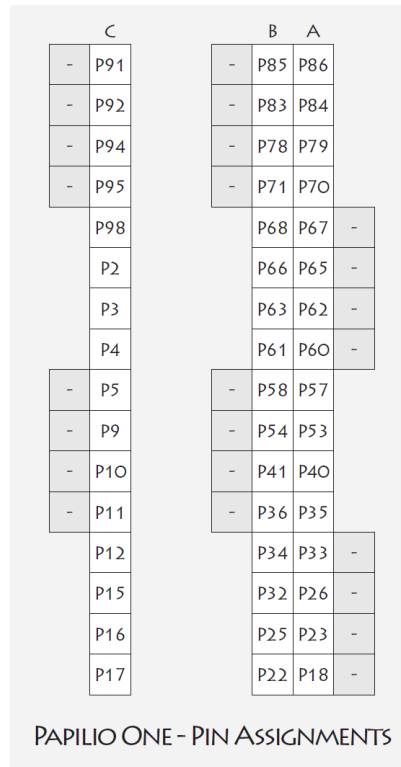

Figure 1 Papilio pin assignments
- 4) This implies that input signals should be attached to the pins on the Papilio board, as shown in Table 2 below. The pins map from papilio.cc webpage is reproduced in Figure 1 below. (and is also contained in Papilio_one.ucf constraints file).